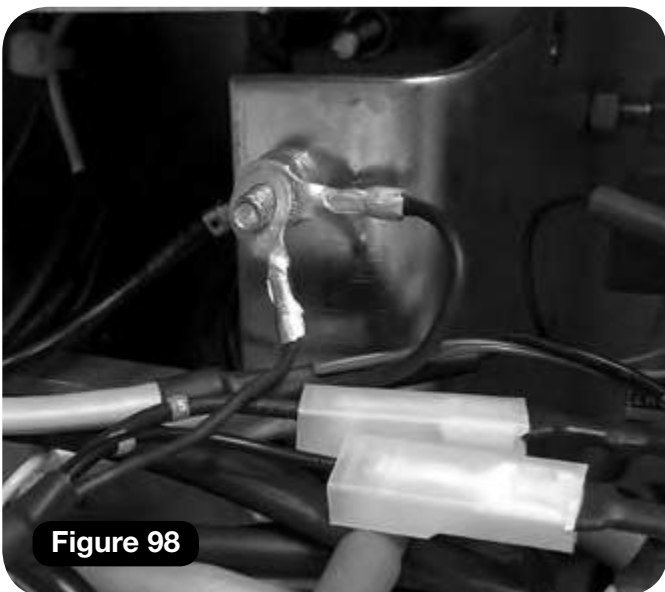

Figure 98
- 6 Connect the manual swivel over-ride loom earth to the chassis earth stud (**Figure 98**).